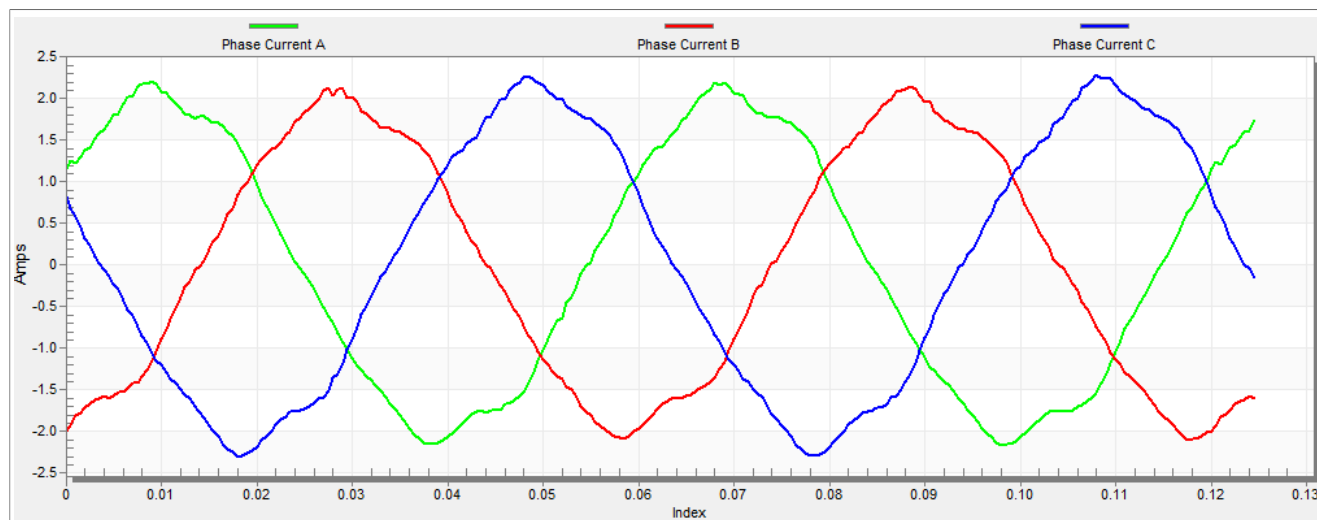

Figure 26. Phase currents
5. The optimal ratio for the V/Hz profile can be found by changing the V/Hz factor directly using MCAT input "Scalar V/Hz factor ratio". The shape of the motor currents should be close to a sinusoidal shape (Figure 26).